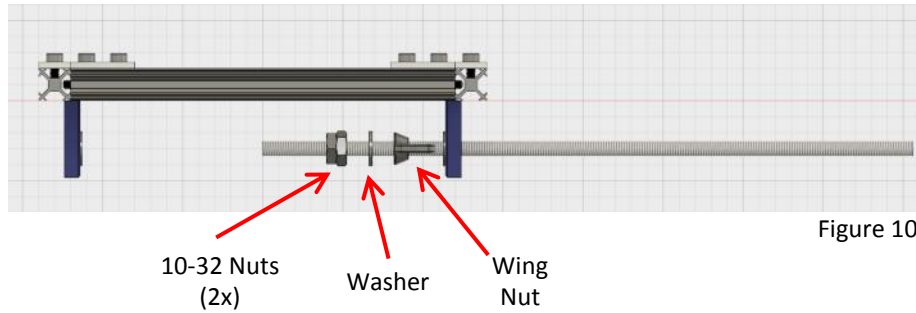

Figure 10
STEP #6b— Insert the threaded rod through one of the bearings part way. Now screw on the wing nut, washer, and two (2) 10-32 nuts as shown in Figure 10.